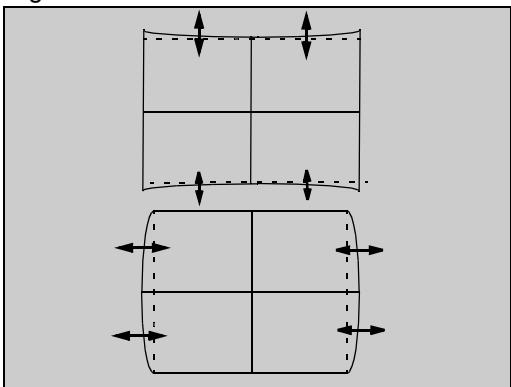

Figure 40. H & V PIN Adjustment
- Adjust V\_PIN by pressing CH up-down (See Figure 40).
30. Adjust horizontally and vertically (See Figure 40)